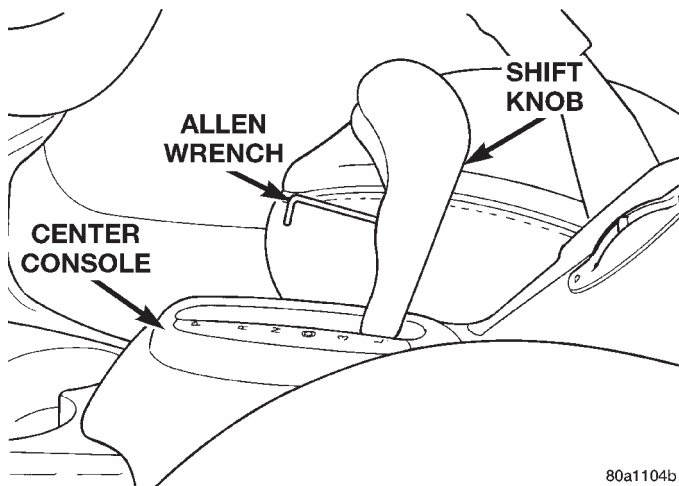

Fig. 136 Shift Knob Retaining Screw
(2) If vehicle is equipped with an automatic transmission remove the shift knob from the shifter. The gear shift knob is attached to the shifter using a set screw (Fig. 136). Access to the set screw is from the front of the shift knob and is removed using a 2 mm allen wrench (Fig. 136).